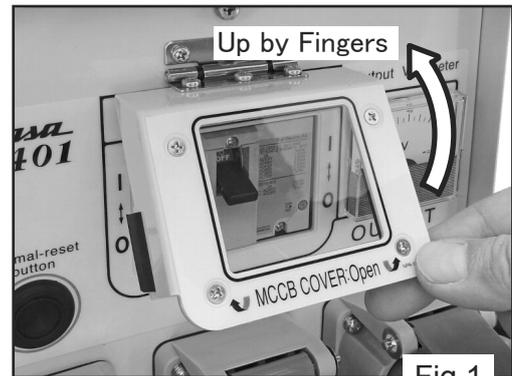
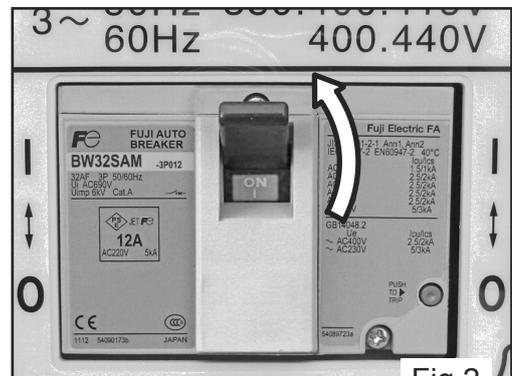

Fig.1
Fig.2
- 7.3 Open the switch cover. Turn on the switch of main switch (MCCB). Read the output voltmeter of the converter to make sure it is 53V - 57V. (Fig.1, Fig.2)